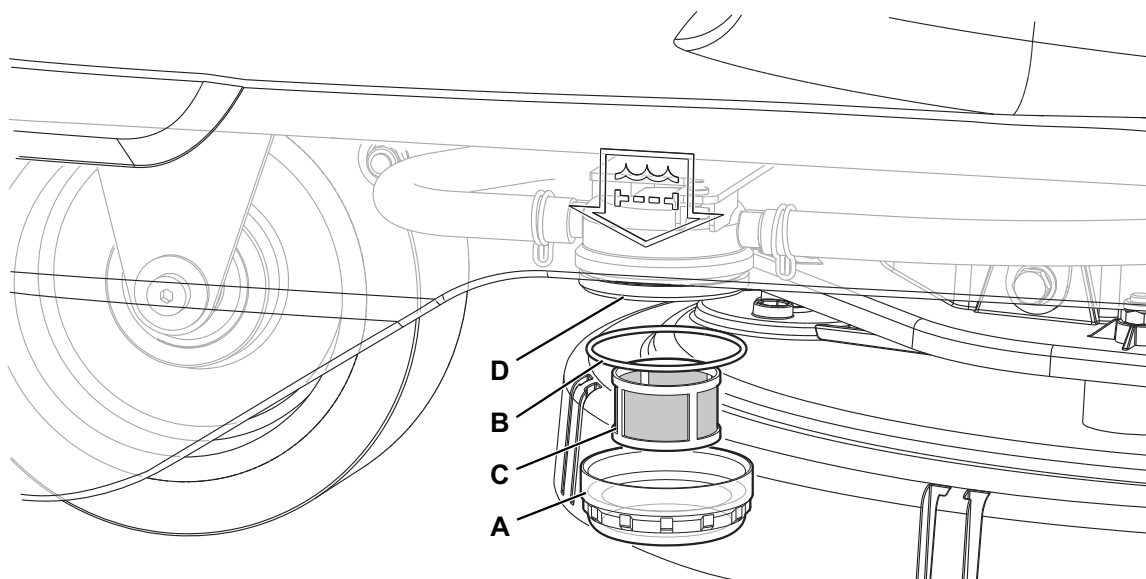

Figure 13
2. Ensure that the machine is off and the user key (52) has been removed.
3. Close the solution tank valve (9). The valve is closed when it is in position (9-B) and it is open when it is in position (9-A).
4. Remove the transparent cover (A, Fig. 13), retrieve the gasket (B), then remove the filter strainer (C). Wash and rinse them with clean water, then refit them carefully onto the filter support (D).